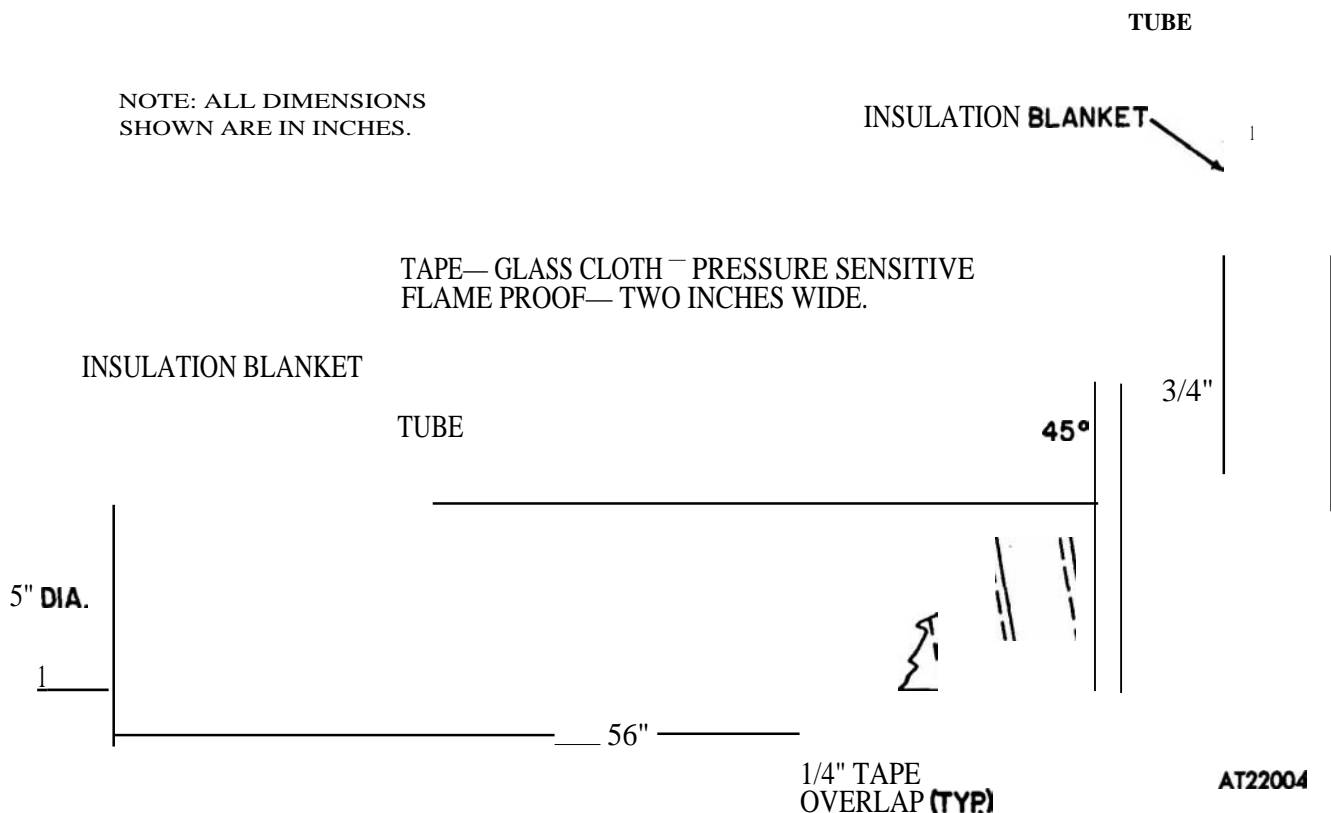

Figure 2-352. M792 ambulance exhaust tube insulation, repair and replacement.
- (1) Clean all parts in an approved cleaning solvent and dry thoroughly.
- (2) Inspect all parts for cracks, breaks, bumps, or other damage.
- (3) Repair exhaust tube insulation blanket by cutting tape and wrapping damaged area(s) with **fiberglass** tape or replace blanket (fig 2-352).